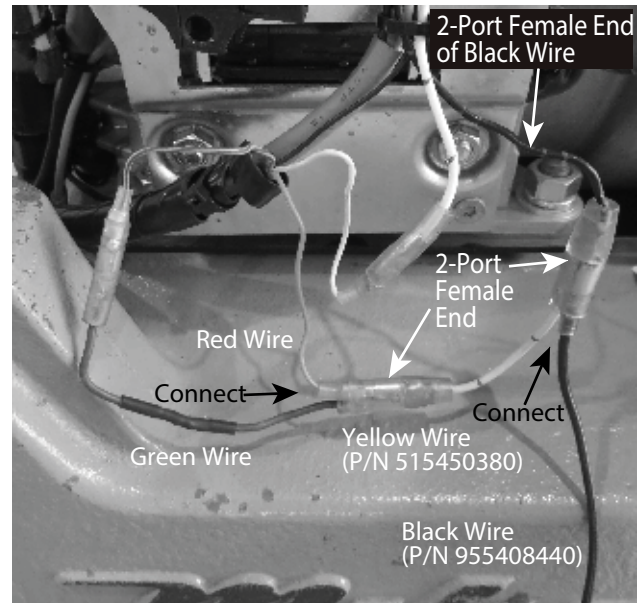

Figure 38. New Wiring Connections
4. Connect the disconnected red and green wires to the 2-Port female end of the yellow wire (P/N 515450380). Then, connect the male end of the yellow wire and the male end of the black wire (P/N 955408440) to the 2-Port female end of black wire disconnected earlier. See Figure 38.